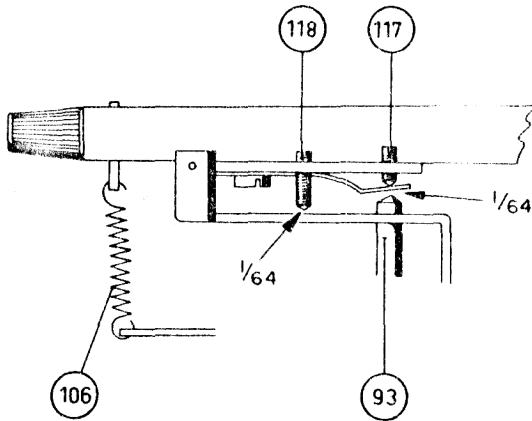

Fig.20
One end of strip 17 is a bevelled lug. When this strip starts moving, the coupling disc 46 is lifted via the lug. The plate 93, resting on the coupling disc with the nylon block 99 is also lifted. The pin, flanged onto this plate presses against the leaf spring 113 (see Figure 20). When this spring is pushed further to the rear, the pin 59 presses against a small lug of coupling disc 46. In this way the disc 46 is turned and the pick-up arm moves outwards through friction between the nylon block 99 and the coupling disc. When strip 17 returns to its original position, spring 82 pulls the lug of the coupling disc 46 against the pin 59. The lug now follows the movement of the pin again and the coupling disc rotates in the opposite direction. The pick-up arm is taken along again and now moves inwards. At the moment, when the bevelled lug of strip 17 is under the pin of the coupling disc 46, the pick-up arm is lowered again.
Turn the set screw 117 (see Figure 20).
2. If a record with minimum thickness lies on the turntable, the distance between the set screw 118 for the lowest position and the bracket of the lifting mechanism must be at least  $1/64''$ . This can be adjusted by turning the set screw. The distance between the lifting pin and the leaf spring 113 must be  $1/64''$ . This can be adjusted by turning the screw 117. After this adjustment check point 1 (see Figure 20).